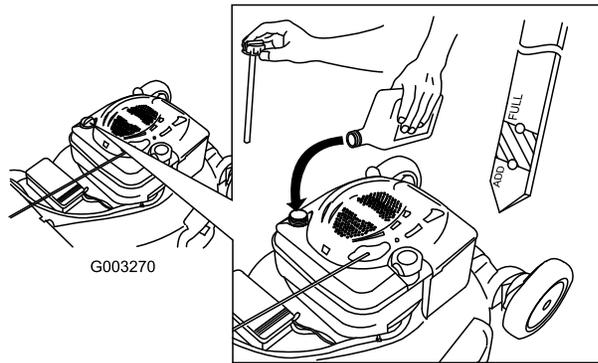

Figure 15
1. Remove the dipstick, wipe it clean, and fully install the dipstick (Figure 15).
2. Remove the dipstick and check the oil level (Figure 15). If the oil level is below the Add mark on the dipstick, **slowly** pour oil into the oil fill tube to raise the oil level to the Full mark on the dipstick. **Do not overfill.** (Max. fill: 20 oz. (0.59 l), type: SAE 30W detergent oil with an API service classification of SF, SG, SH, SJ, SL, or higher.)